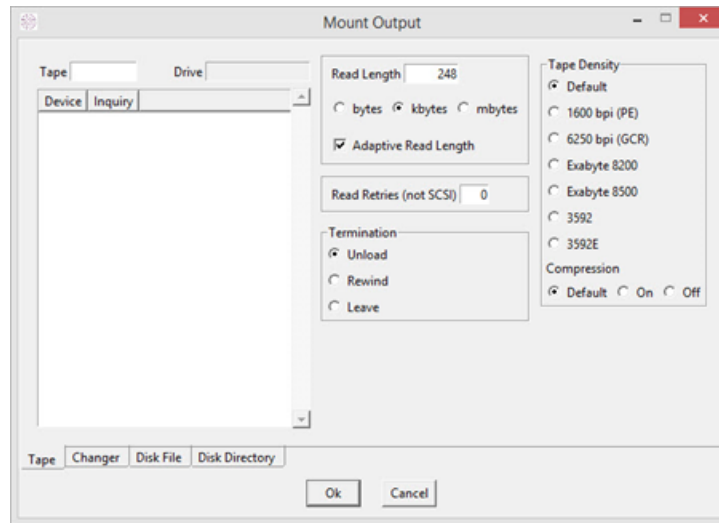

Figure 3-4 Tape Output density options
3. For **Tape** select the required tape density format (shown in Figure 3-4 on the next page).
5. The selected output will be shown in the main Magma window (see Figure 3-4 on the next page).